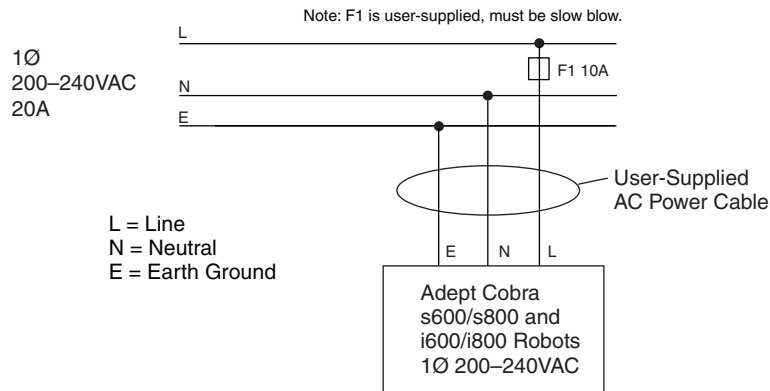

Figure 4-3. Typical AC Power Installation with Single-Phase Supply
1. Connect the unterminated end of the AC power cable to your facility AC power source. See Figure 4-3 and Figure 4-4 on page 48. Do not turn on AC power at this time.